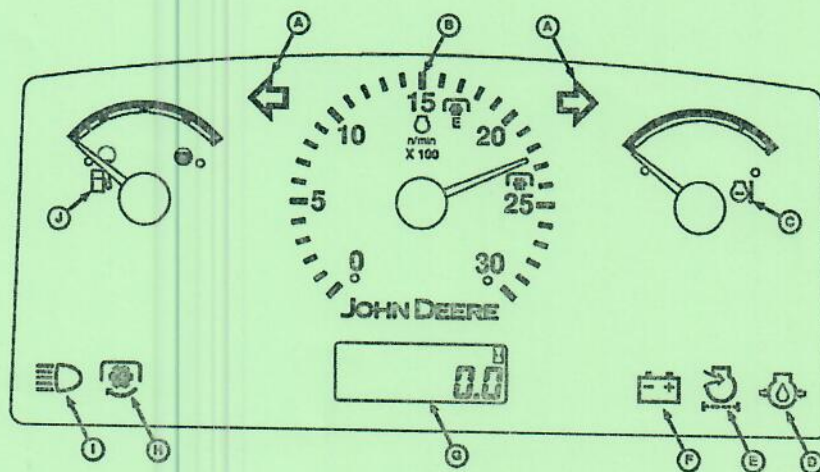

Figure 2 Dashboard indicators of John Deere tractor
- c) Figure 2 shows a dashboard indicator symbols for a John Deere tractor. Name the labelled indicators. [10 marks]